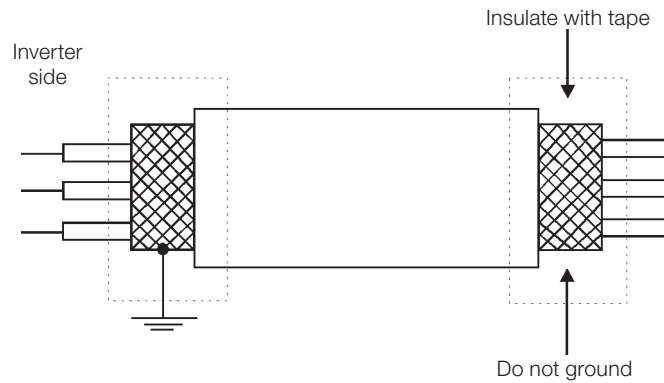
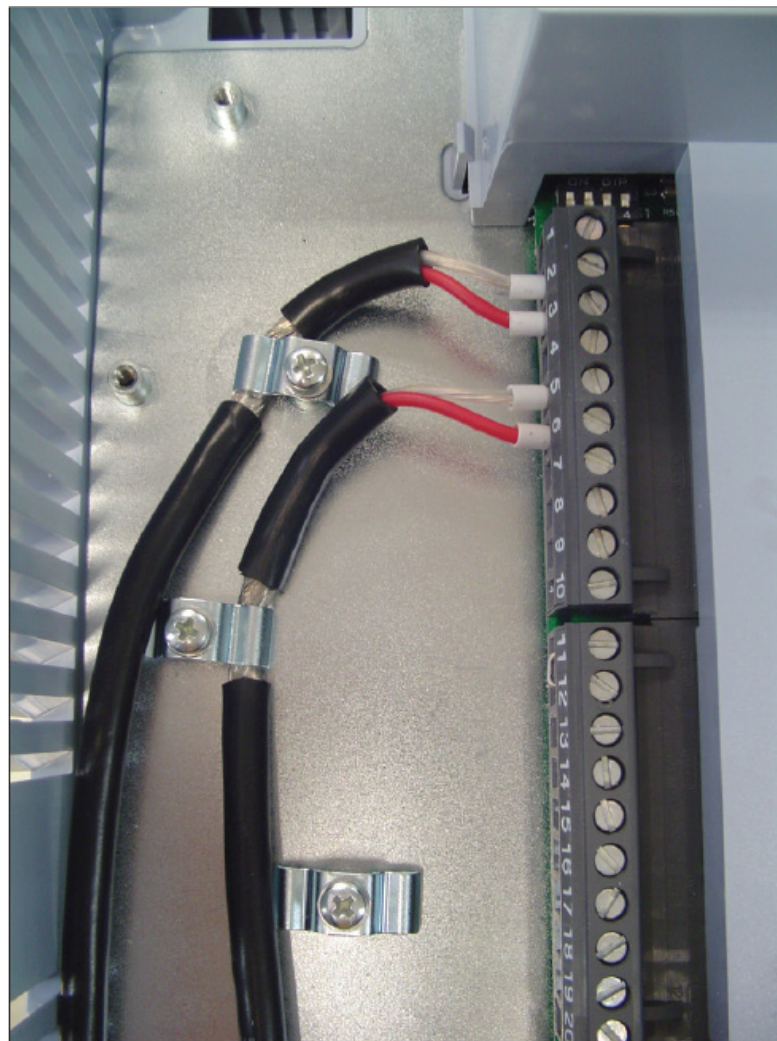

Figure 3.59: Connection of the shield
Figure 3.60: Example of connection of the control cable shield
4. The correct connection of the cable shield is shown in Figure 3.59 on page 3-49. Check connection example of the shield to the ground in Figure 3.60 on page 3-49.